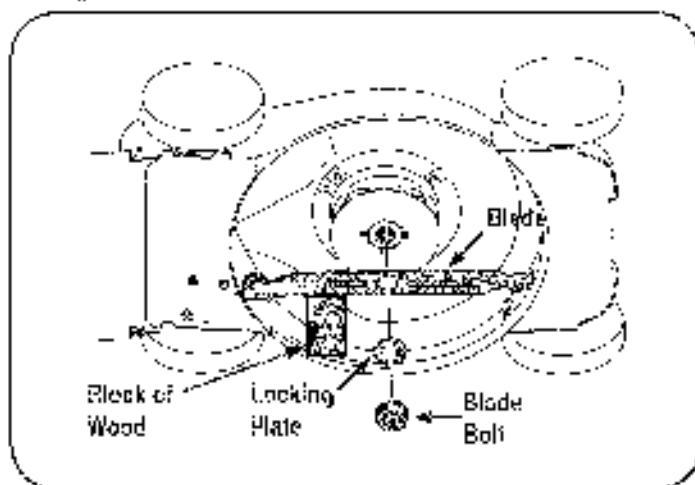

Figure 12
2. Place a 2x4 block of wood approximately 8.5" long between the deck housing and the cutting blade to act as a stabilizer. See Figure 12.